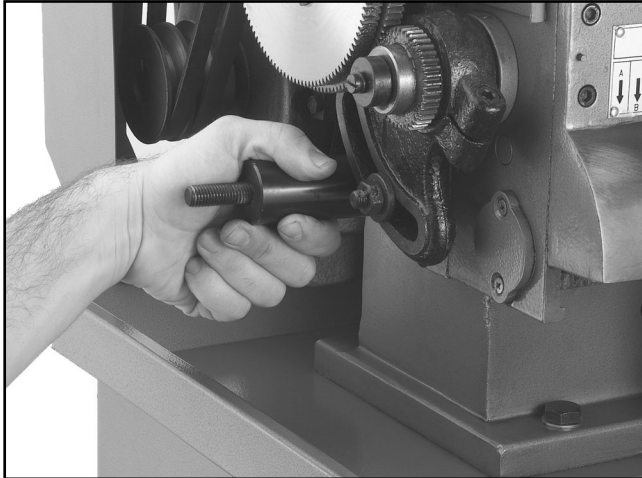

Figure 2. Mounting stud removal.
1. Remove the lower mounting stud as shown in **Figure 2**.